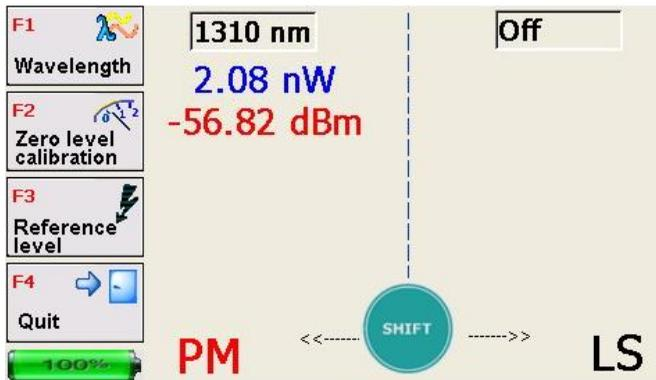

Figure 8.1
When this module is chosen the window, shown in Figure 8.1 appears on the screen.
8.3.1 For work with the continuous emission source, you should press the [Shift] button in the window shown in Figure 8.1 as to make the sign LS highlighted with red color.